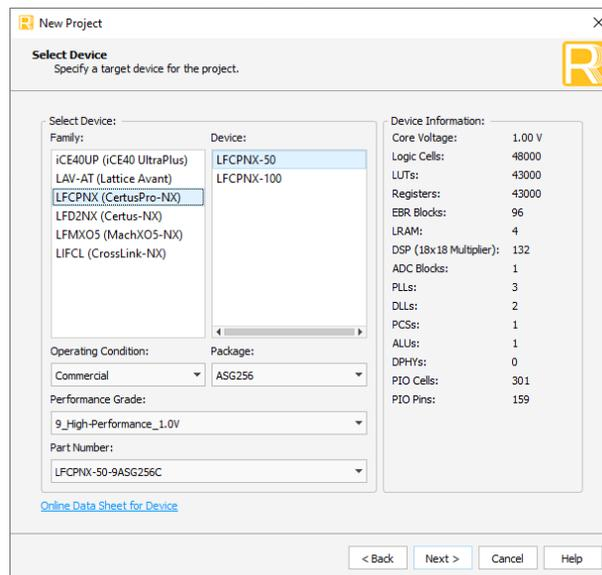

Figure 6.3. Project Device Settings
- Under **Family**, select CertusPro-NX. Under **Device, Package, Operating Condition, and Performance Grade**, make the appropriate selections representative of the selected device part number, as shown in Figure 6.3. Click **Next**.